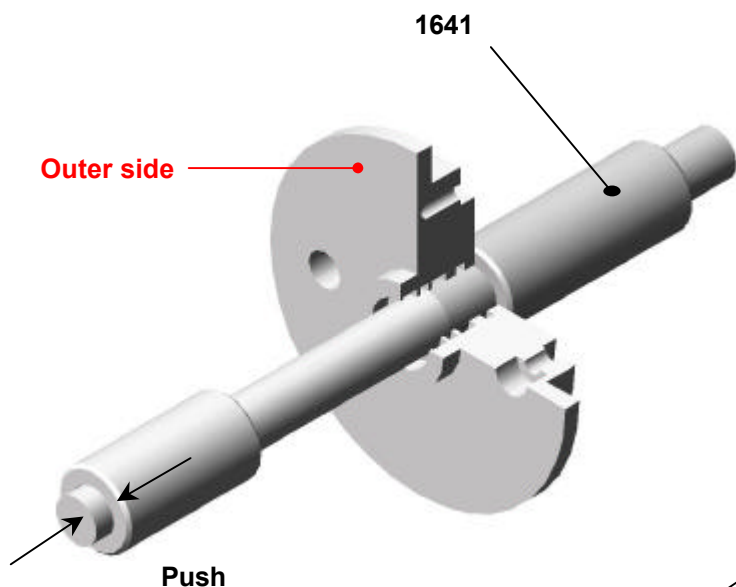

Figure 5
- While holding the O-ring positioning tool (P/N 1641) against the plate, place the sleeve insertion tool (P/N 2680) into the other side and use the push-button to release the sleeve free on the O-ring (Figures 5 & 6):